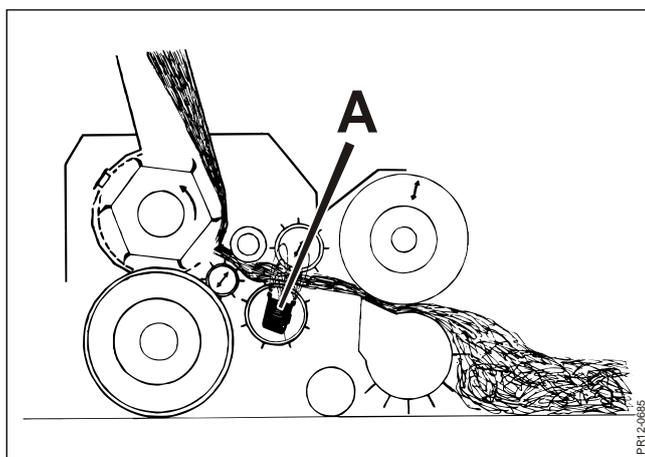

Fig. 5-1
**Fig. 5-1** The machine is equipped with a magnet tub **A** (a sensor) which is mounted in the lower front feed roller. The function of the magnet tub is to detect ferrous metal (metal containing iron).